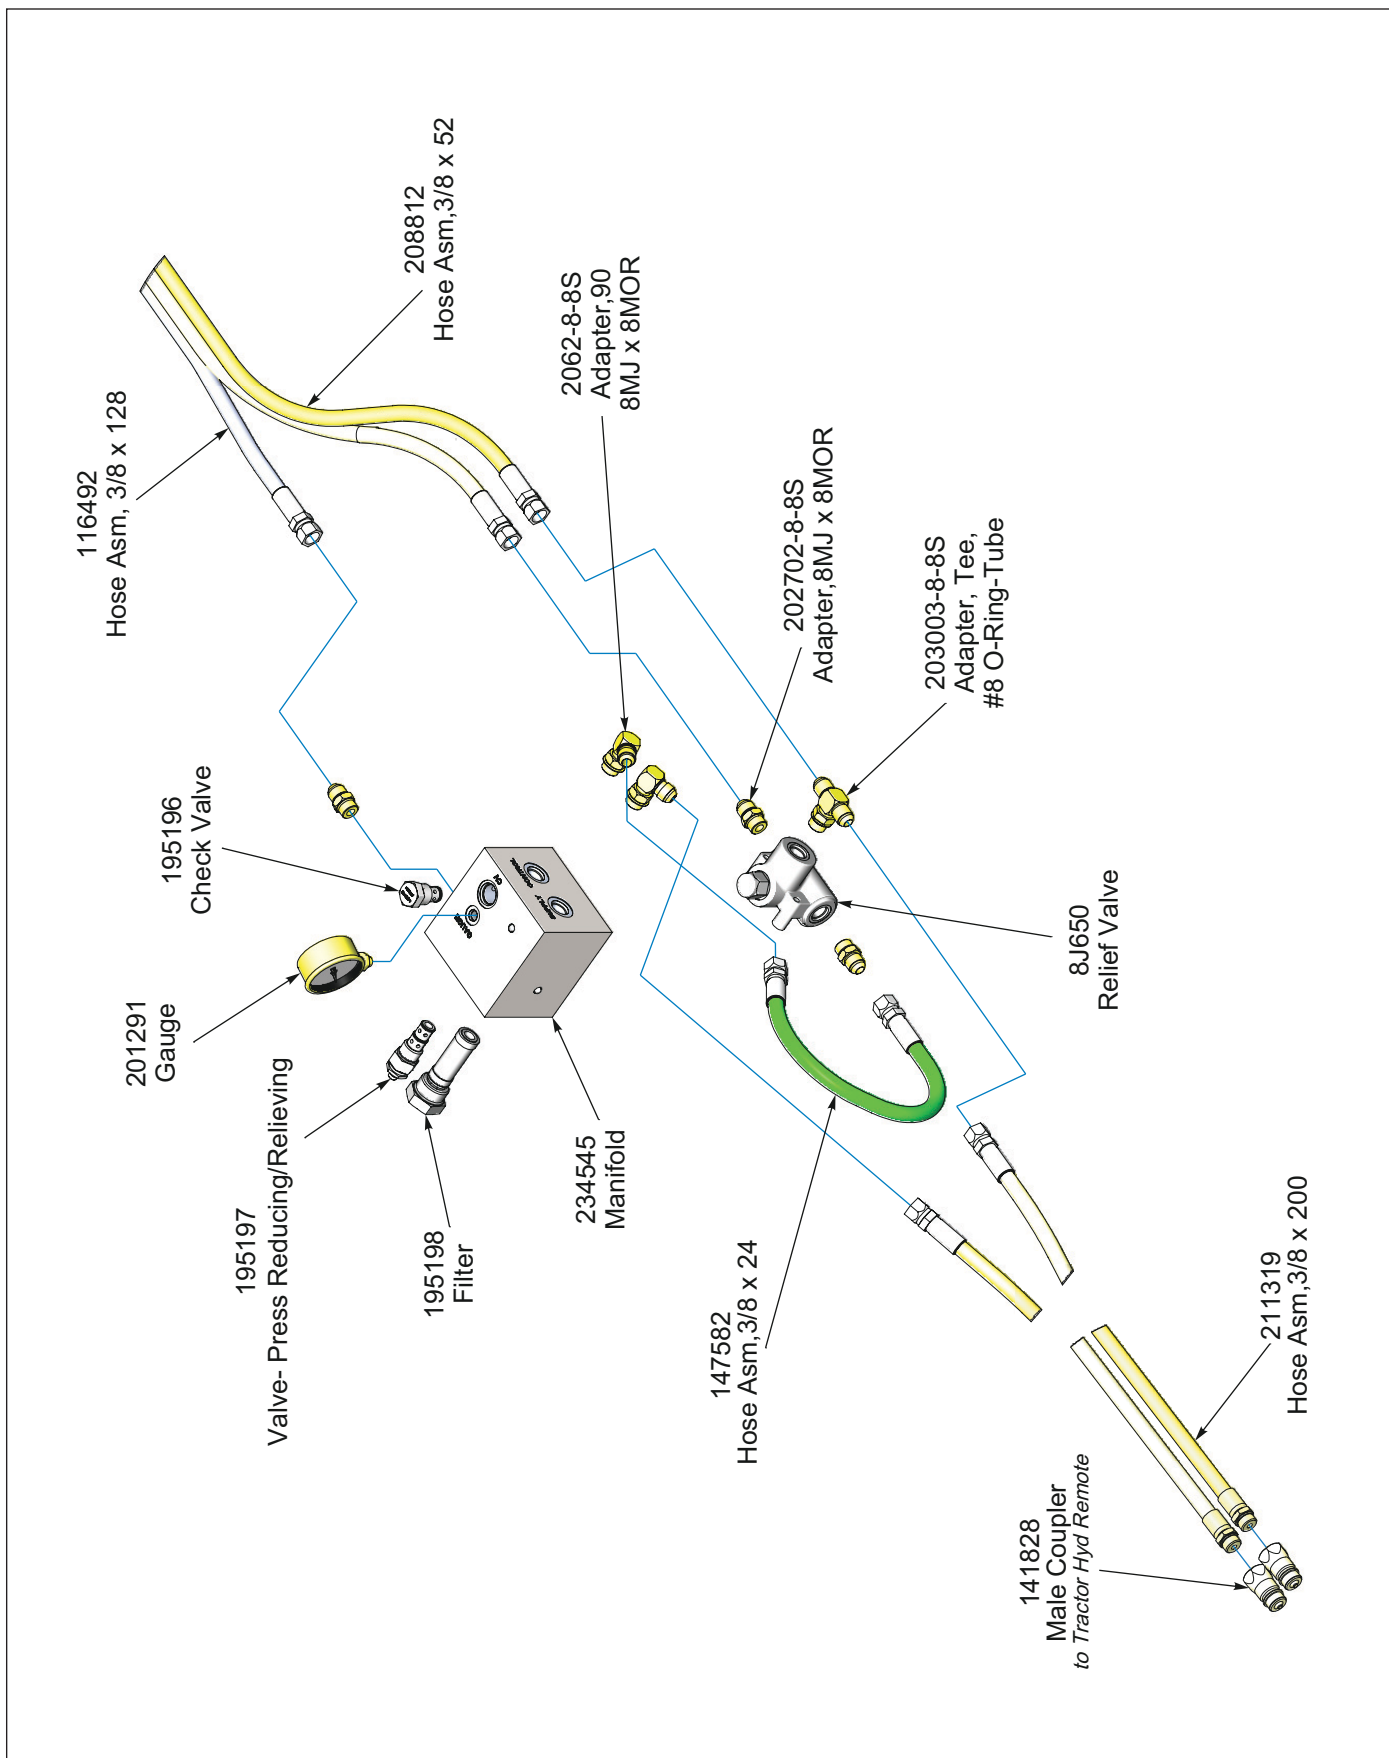

Figure 2-21: Fold/Down Pressure Valve Schematic
2. Fold Circuit - Yellow - **See Figures 2-21, 2-22 and 2-23.** The Fold Circuit with wings folded requires approximately 5.9 gallons of hydraulic oil and with wings unfolded requires 7.2 gallons of hydraulic oil.